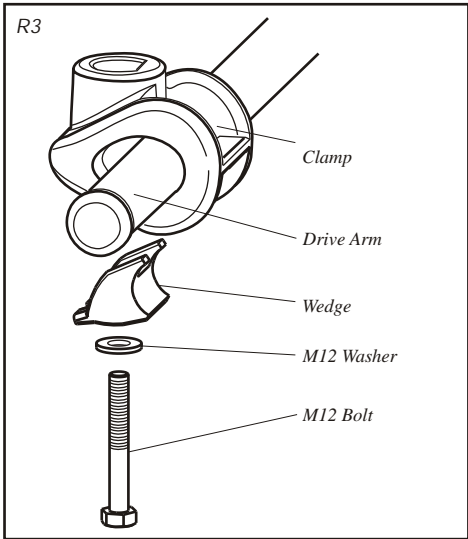

Figure 20 Assemble Clamp to Drive Arm (R3 only)
- Fit the drive arm and connecting arm assembly to the motor output shaft as in Fig. 20, using the supplied M10 or M12 bolt and washer (Check that the flats on the shaft and clamp line up before tightening up the bolt.)